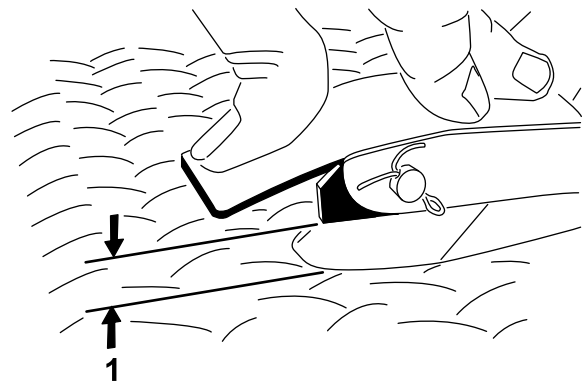

Figure 64
6. Adjust the ball joint on the accelerator cable and/or cable jam nuts while the throttle lever is against the high-idle stop to allow 2.54 to 6.35 mm (0.100 to 0.250 inch) of clearance between the accelerator pedal arm and the top of the diamond tread floor plate, when you apply a 11.3 kg (25 lb) force to the center of the pedal (Figure 64). Tighten the locknut.